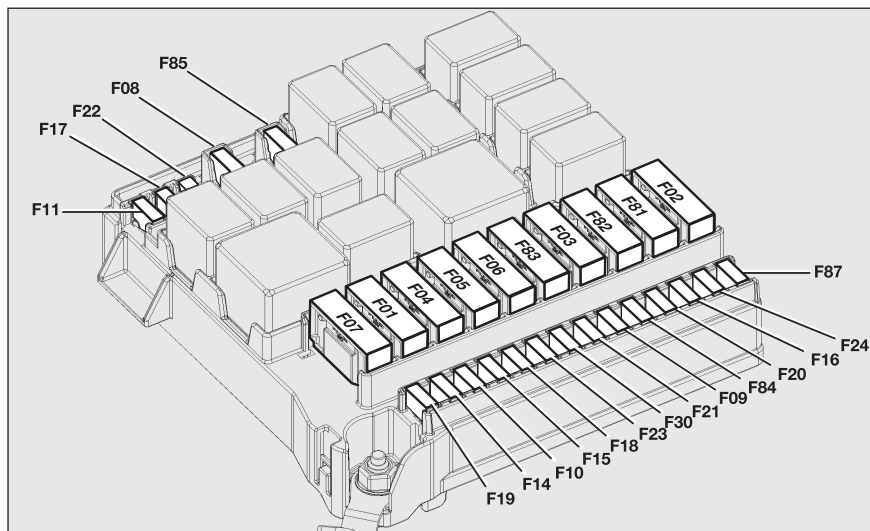

fig. 50
- ☐ The fuse central unit is now accessible, **fig. 50**.